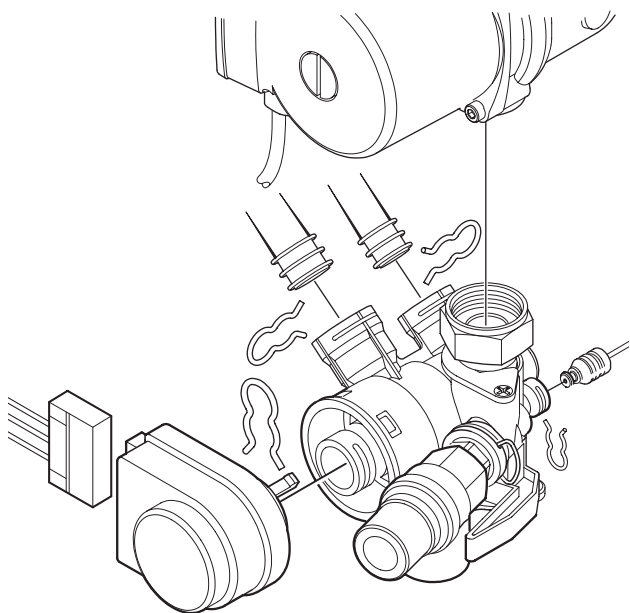

Fig. 64
- ▶ Unscrew four fixing screws from cover plate. Refer to fig. 64.
- ▶ Unplug connector from 3-way valve motor. Refer to fig. 64.